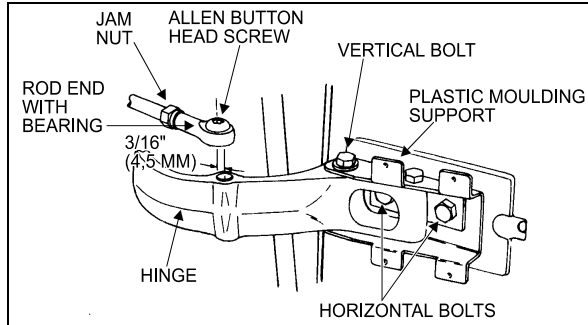

FIGURE 18: UPPER DOOR HINGE (COACH)
2. Fully close the damper while turning the dust cap or piston rod slowly CCW until it is felt that the cams of the adjusting nut engage in the recesses of the foot valve assembly (Fig. 18).
In figure 18, if there is an indentation (B) in the dust cap (C) and the cover shows two holes (A), the damper is fitted with a bump rubber (D). If so, fully extend the damper and insert a round bar or screwdriver through the holes. Push the bump rubber down and remove. Remove the split plastic collar (E) (if fitted) from the piston rod.
Where a bump rubber was installed, refit same inside the dust cap and by fully closing the damper, the rubber will seat again at top of the dust cap. Refit the split plastic collar E (Fig. 18)